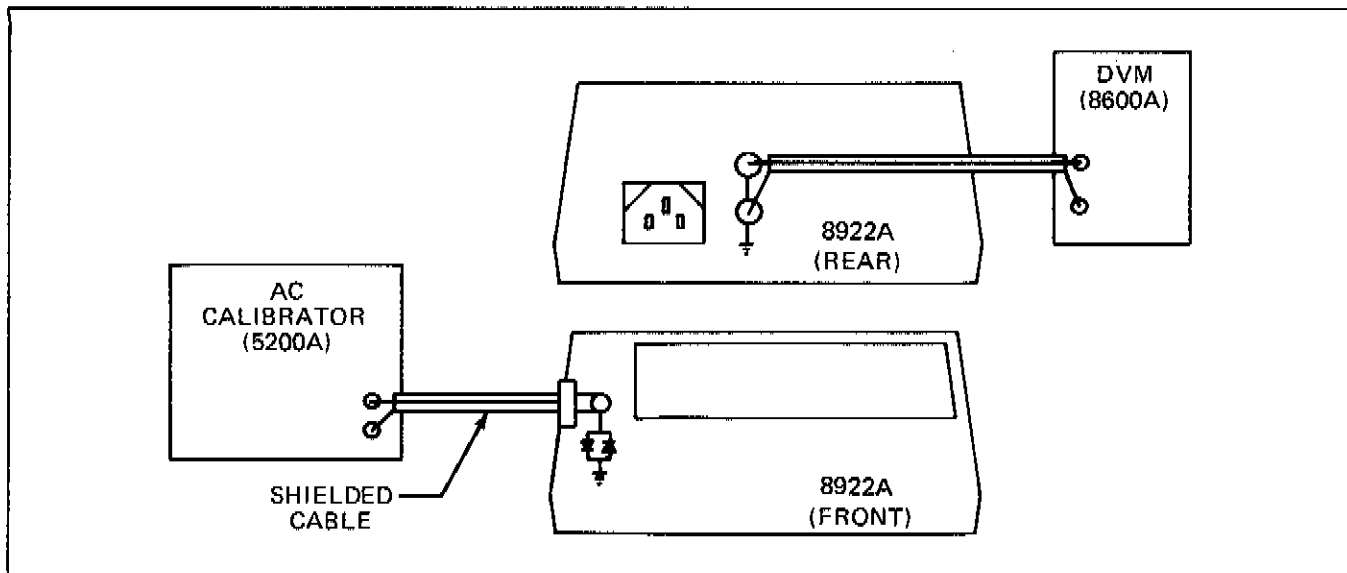

Figure 4-6. Linear Analog Output Check
- Set up the calibration test equipment as shown in Figure 4-6.